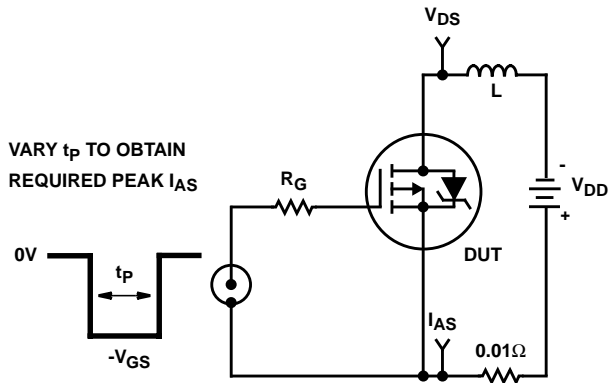

FIGURE 15. UNCLAMPED INDUCTIVE ENERGY TEST CIRCUIT
4.  $V_{DD} = 50\text{V}$ , starting  $T_J = 25^{\circ}\text{C}$ ,  $L = 17.75\text{mH}$ ,  $R_G = 25\Omega$ , peak  $I_{AS} = 6.5\text{A}$ . (Figures 15, 16).